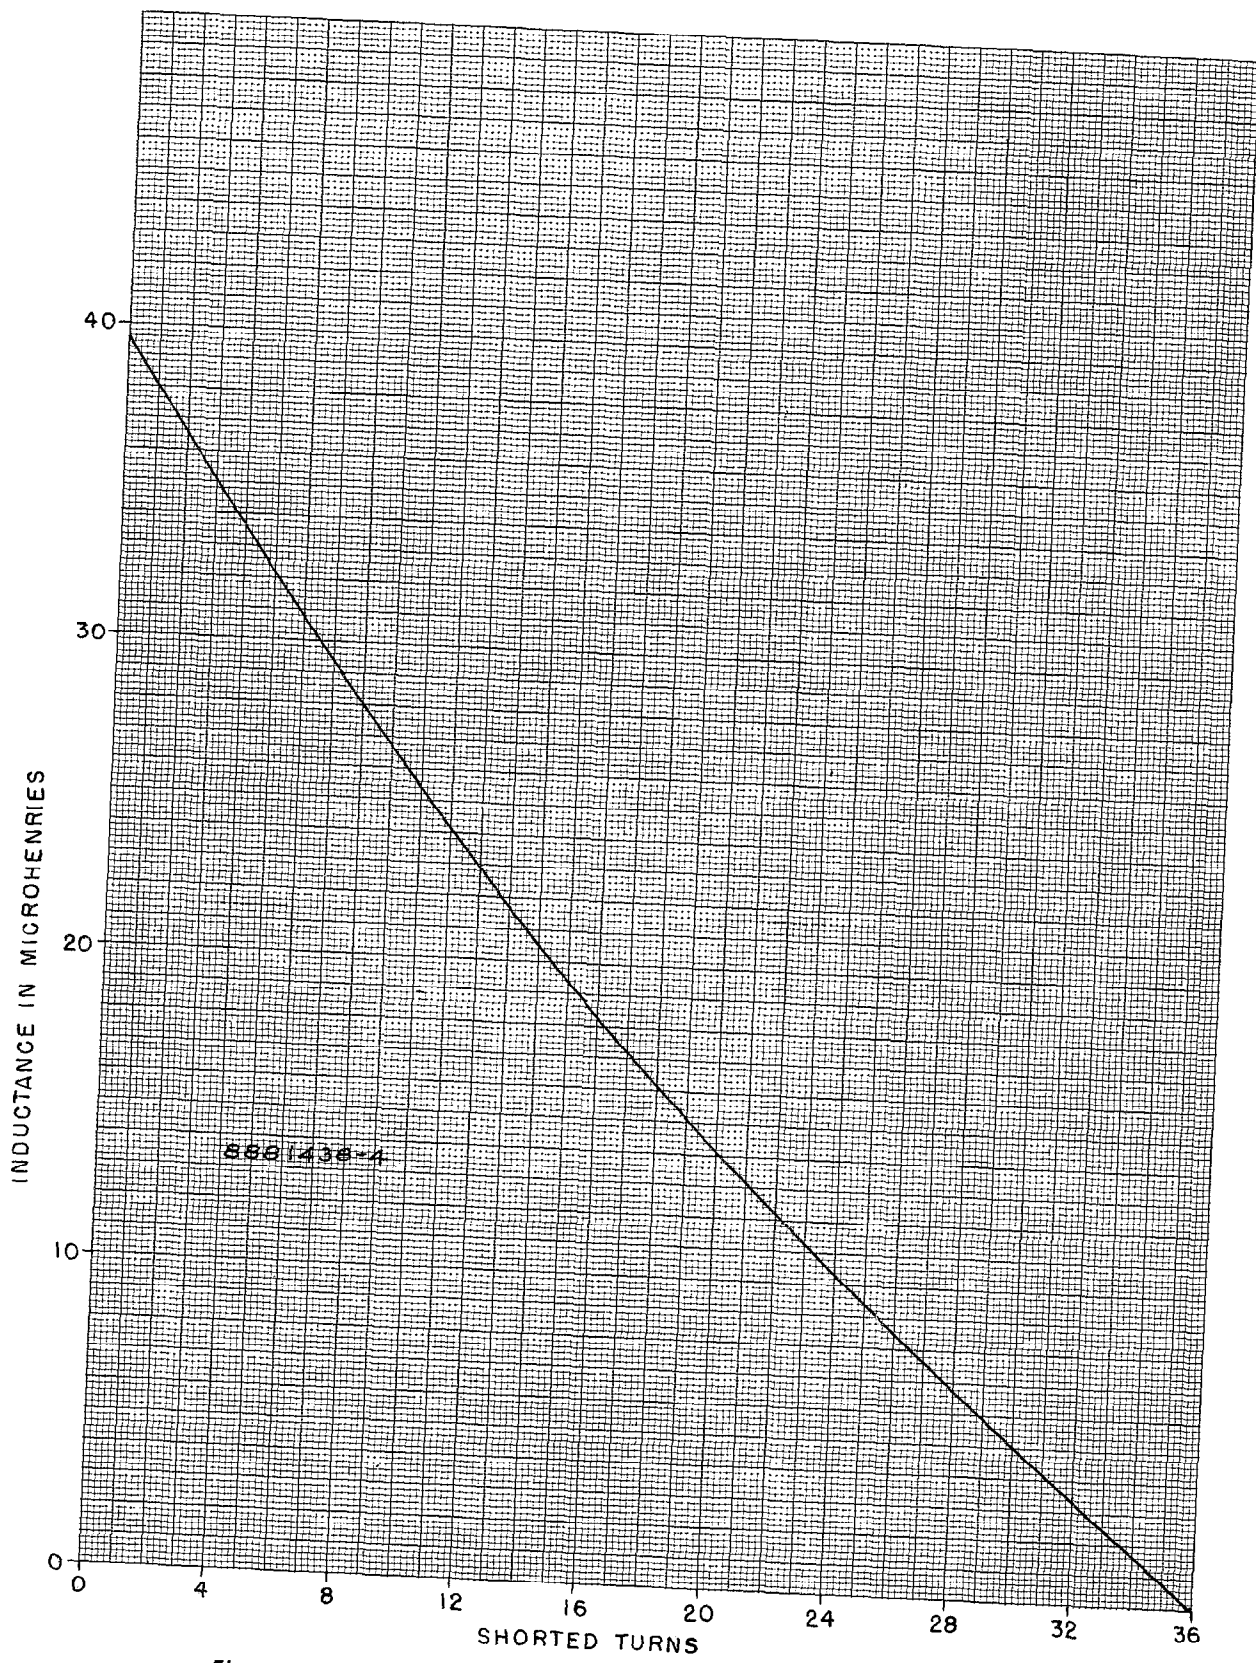

Figure 6—Coil Turns vs Inductance, L106 and L107 (8881438-4)
where L is the inductance in microhenries, X_L is the required reactance in ohms, and f is the operating frequency in kilocycles. Then use Figure 6 to find the number of turns to be shorted.
3. From Figure 6, determine the number of turns to be shorted.
5. Using Figure 6, determine the turns on L106 to be shorted, to obtain the inductance required in Step 4.
3. From Figure 6, 26 turns must be shorted.
5. From Figure 6, 31 turns must be shorted.